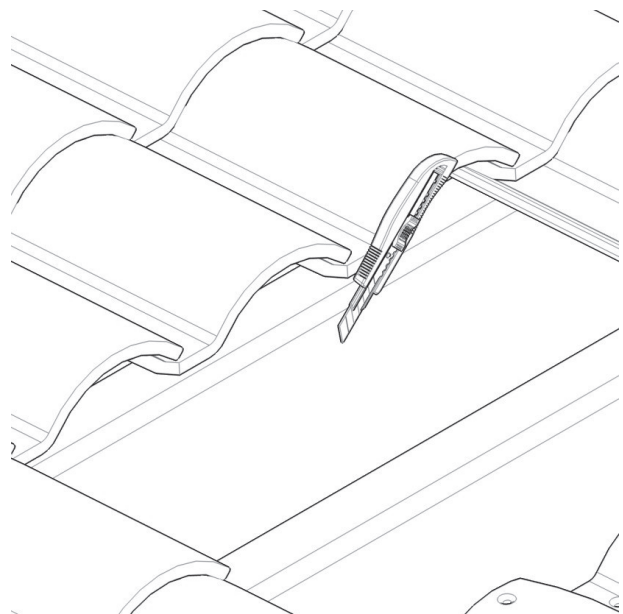

Figure 5.
3. Determine the location of the flashing and cut a slit in the roofing paper so the upslope edge of the flashing can slide under the paper when installed. See Figures 5 & 6.